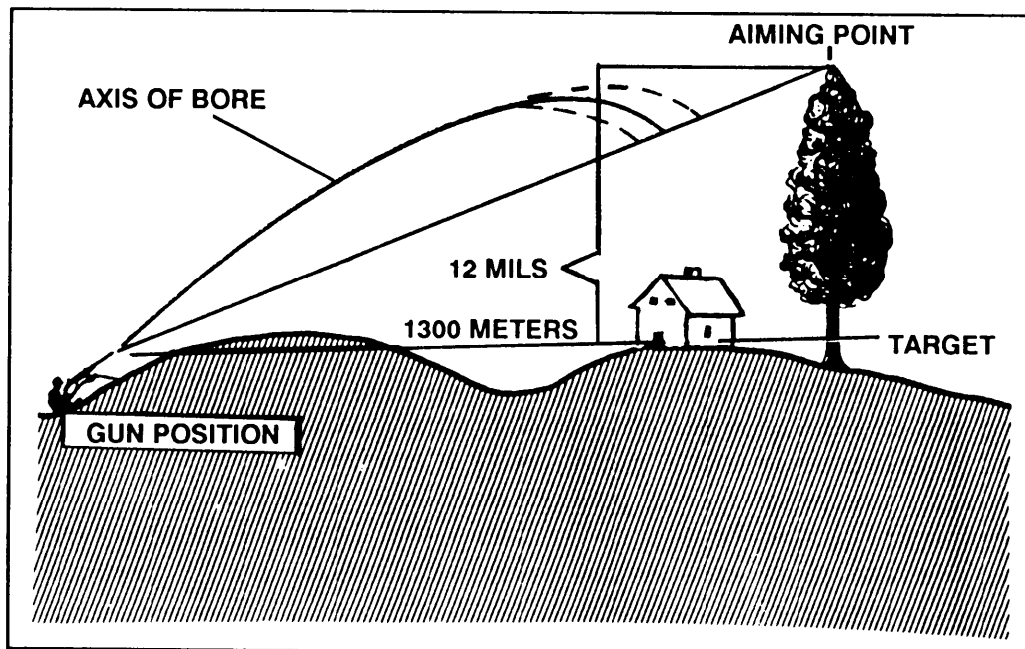

Figure 6-16. Aiming point method.
b. **Elevation.** An aiming point visible from the gun position is selected (preferably a point at a greater range and at a higher elevation than the target) and the range to the target is determined. The leader, using binoculars, measures the vertical angle in mils from the aiming point to the base of the target. He then lays the gun on the aiming point with the sight set to hit the target. He directs the gunner to manipulate the gun through the number of mils measured. For example, in Figure 6-16, the range to the target is 1,300 meters. The angle read with the binoculars from the aiming point down to the base of the target is 12 mils. The sight is set at 1,300 meters, the gun laid on the aiming point, and the muzzle depressed 12 mils. If the aiming point is off the gun-target line, deflection in mils may be taken with the rear sight windage screw knob if it is not over 5 mils; otherwise, the deflection must be taken up on the traversing handwheel.